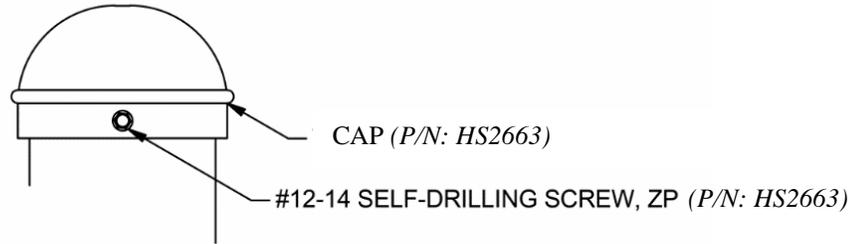

FIGURE: 4
1. Install the cap on top of foul pole with #12-14 self-drilling screw (figure 4).